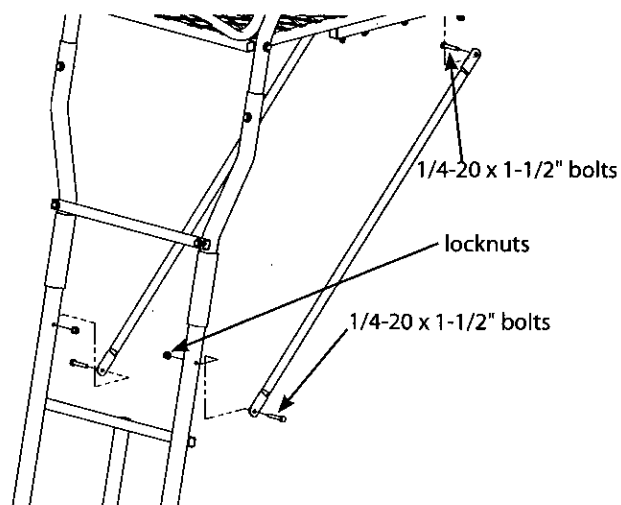

Figure 12
18. Attach the (2) support braces (410024) to the inside of lower tree blade and outside of top ladder section w/ mounting holes using (4) provided 1/4-20 x 1-1/2" bolts and locknuts. **SEE FIGURE 12. Tighten securely. Be sure not to over tighten or crush tubing when tightening!**